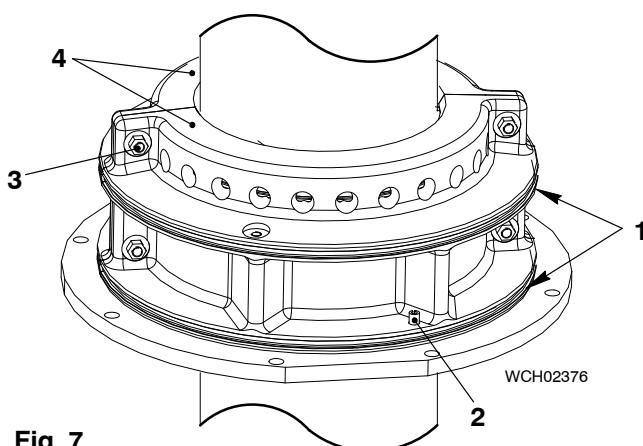

Fig. 7
- 27) Push the two parts of the housing (4, Fig. 7) over the assembled rings. Make sure that the dowel pins (2) are installed.
- 28) Torque the M12 x 55 bolts (3) to the value given in 0352 2, Torque Values for Standard Screws, paragraph 1.
- 29) Put oil on the O-rings (1).
- 30) Attach the O-rings (1) to the housing (4).